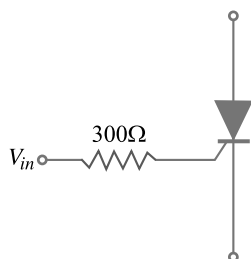

Fig. 18.33
5. In Fig. 18.33, what value of input voltage would be required to cause the SCR to break down if the gate current required for firing is  $10 \text{ mA}$  ? [3.7 V]